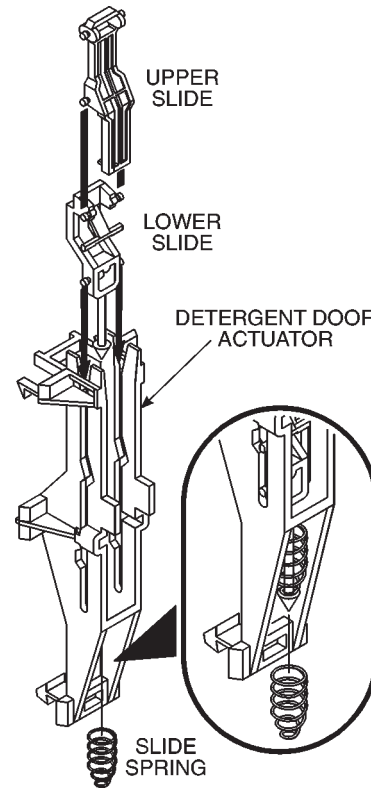

Fig. 1-32
11. Remove the upper slide, the slide spring and the lower slide. (Fig. 1-32)
1. Assemble the upper slide, slide spring and lower slide to the detergent door actuator. (Fig. 1-32)